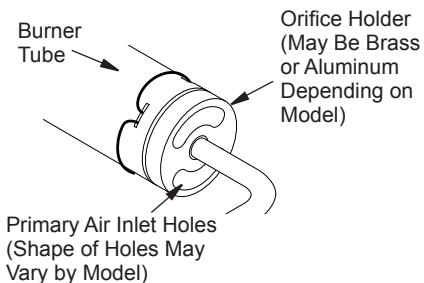

Figure 36 - Orifice Holder On Outlet Burner Tube
2. Inspect burner, pilot and primary air inlet holes on Orifice holder for dust and dirt (see Figures 36 and 37).